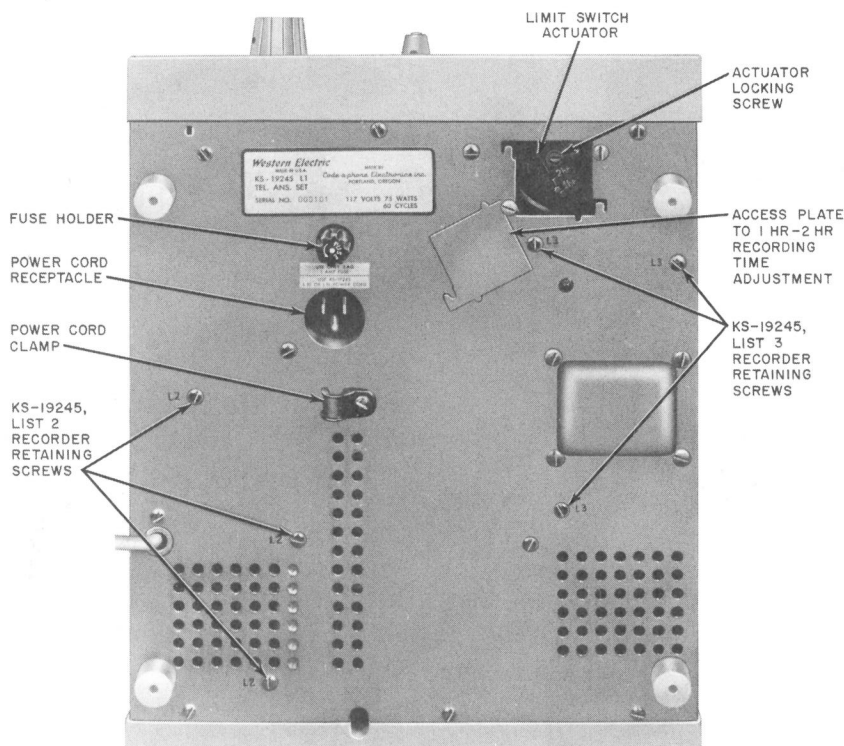

Fig. 2—KS-19245, List 1 Telephone Answering Set, Bottom View
(4) Remove three retaining screws (Fig. 2) located on the bottom of the set.
- (a) Remove three retaining screws located on bottom of set (Fig. 2).
- (4) Remove three retaining screws (Fig. 2) located on the bottom of the set.